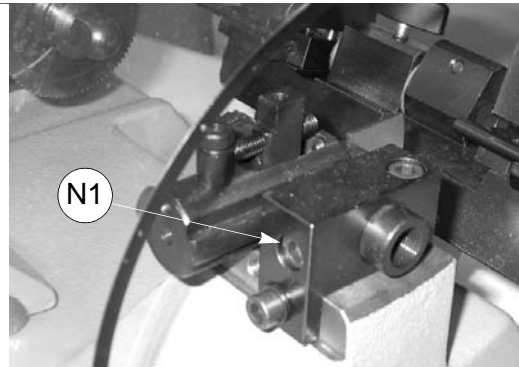

Fig. 11
- 4) the cutting interval is correct when the cutter skims the gauge in the right clamp (M). Otherwise proceed as follows:
- loosen the screw (N1) of the tracer unit (fig.11).
- move the tracer unit next to the gauge in the left clamp (L).